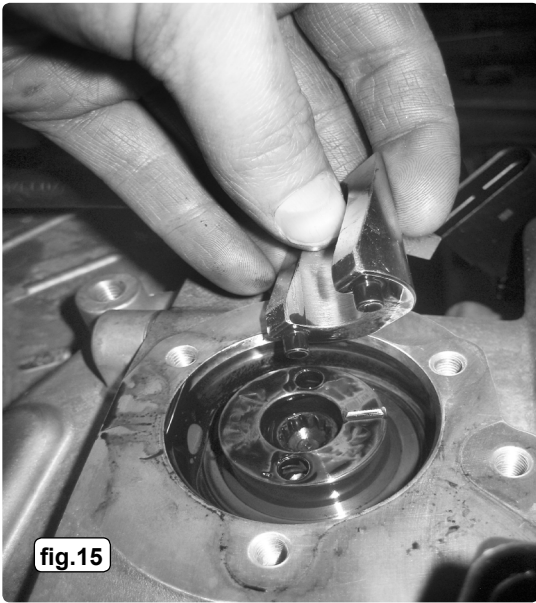

fig.15
3.3.11. VS5036 is used to turn and hold the eccentric pin in the installed position whilst securing with a new bolt (fig.15).